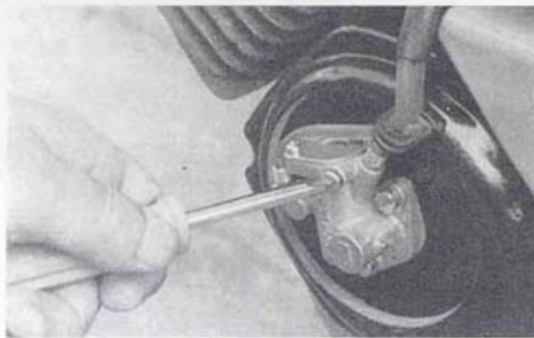

Fig. 35
- Unscrew the bleed screw on the oil pump and wait until oil from the tank under the seat flows to the pump. The screw is then screwed on (fig. 35).